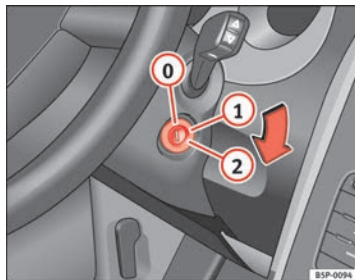

Fig. 136 Ignition key positions
In this position ⇒ fig. 136 the ignition and the engine are OFF and the steering may get locked.
- Turn the ignition key to position ⇒ page 173, fig. 136 . The indicator lamp  will light for engine pre-heating.
- Turn the ignition key to position ⇒ page 173, fig. 136